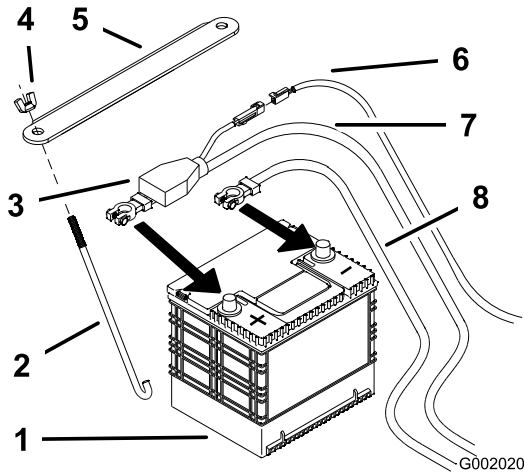

Figure 54
4. First disconnect the negative battery cable from the negative (-) battery terminal (Figure 54).
5. Slide the red terminal boot off the positive (red) battery terminal. Then remove the positive (red) battery cable (Figure 54).
1. Position battery in the tray with the terminal posts opposite from the hydraulic tank (Figure 54).
4. Secure the cables with 2 bolts (1/4 x 3/4 inch), 2 washers (1/4 inch), and 2 locknuts (1/4 inch) (Figure 54).
6. Secure the battery with J-bolts, hold down clamp, 2 washers (1/4 inch), and 2 wing nuts (1/4 inch) (Figure 54).